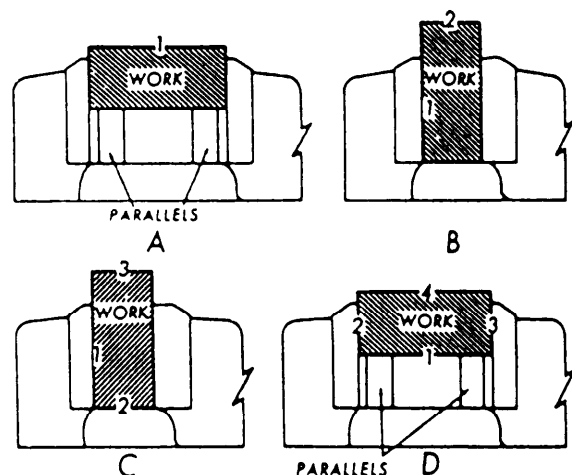

Figure 7-55.—Machining sequence to square a block.
2. Place the work in the vise, as shown in view A, figure 7-55.
To machine the second side, place the work in the vise as shown in figure 7-55, view B. Rough and finish machine side 2, using the same procedures that you used for side 1. When you have completed side 2, deburr the surface and remove the work from the vise.
Place the work in the vise, as shown in figure 7-55, view C, with side 3 up. Then, rough machine side 3. Finish machine side 3 for a short distance, disengage the spindle and feed, and return the work to the starting point, clear of the cutter. Now you can safely measure the distance between sides 2 and 3. If this distance is correct, you can continue the cut with the same setting. If it is not, adjust the depth of cut as necessary. If the trial finishing cut is not deep enough, raise the work slightly and take another trial cut. If the trial cut is too deep, you will have to remove the backlash from the vertical feed before taking the new depth of cut. Use the following procedure to remove the backlash:
Place side 4 in the vise, as shown in figure 7-55, view D, and machine the side, using the same procedure as for side 3. When you have completed side 4, remove the work from the vise and check it for accuracy.